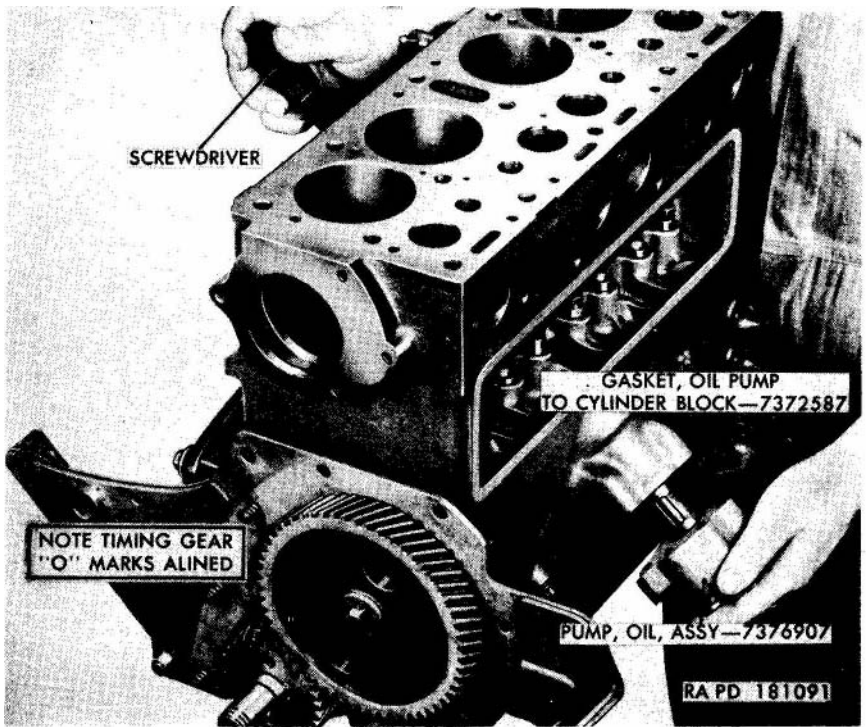
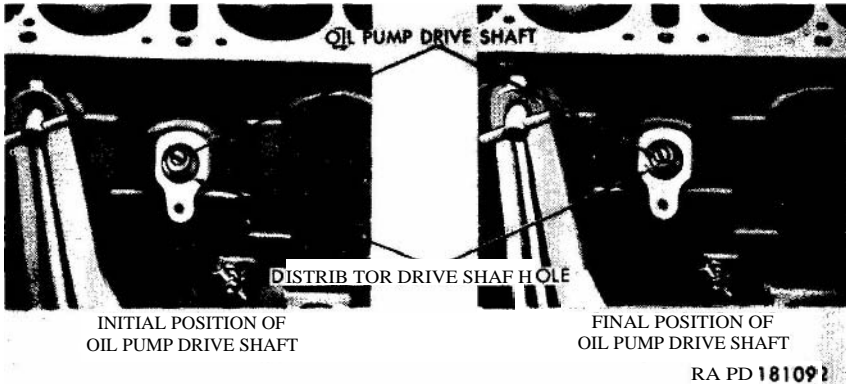

Figure 80. Installing oil pump assembly.
Figure 81. Initial and final positions of oil pump drive shaft.
d. Insert a long blade screwdriver (fig. 80) into the distributor shaft opening on the opposite side of the block and engage the end of the oil pump shaft. Turn the shaft so that the slot is positioned at what would be the rough equivalent of the nine thirty position on a clock face (fig. 81), with the wider edge of the slot on top (nearer the top of the cylinder block).
face (fig. 81) with the wider edge of the slot still on the top side. If the slot is improperly positioned, remove the oil pump assembly and repeat operations *d* and *e* above.